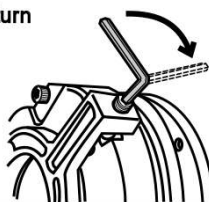

FIG. A5
1. Release the brake (**Fig A5**) turning clockwise the screw in the lever of brake's ring.
If the equipment requires a band saw adjustment, you will need to release the pulley. Use a 5/32" allen wrench (included) and turn the screw (**see Fig A5**) clockwise a whole turn. Complete service and screw back to previous position to lock the pulley again.